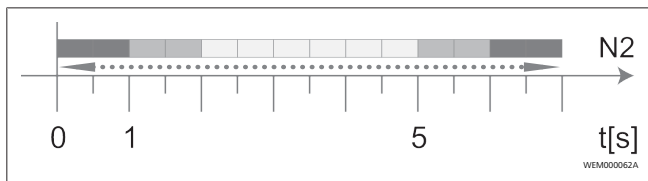

Fig. 11
- White chase light running up and down. See Fig. 11, operating status N2.